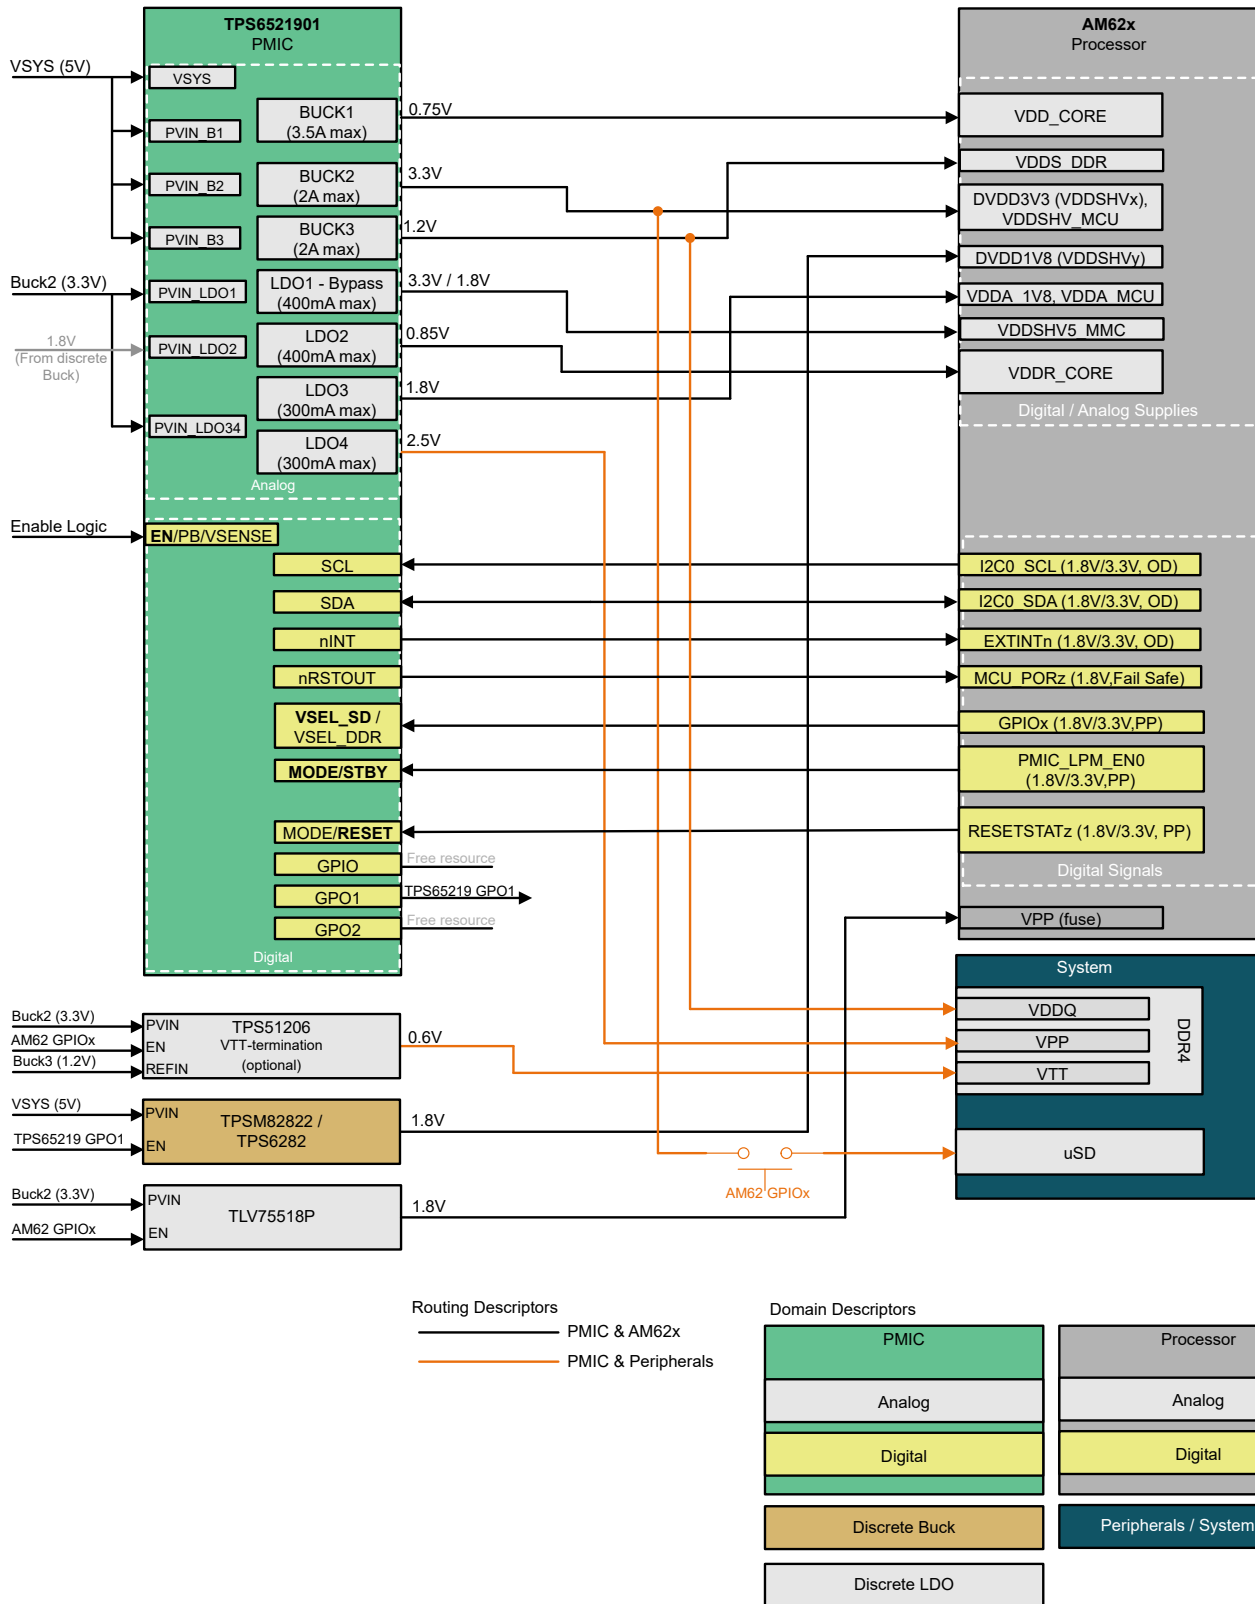

Figure 7-1. TPS6521901 Powering AM62
**Figure 7-1** shows the TPS6521901 variant powering the AM62x processor on a system with 5V input supply and DDR4 memory. The 5V coming from the pre-regulator is connected to the main input supply for reference system (VSYS) and to the power input of the buck converters (PVIN\_Bx). Buck1, Buck2 and Buck3 are used to supply VDD\_CORE at 0.75V, 3.3V VDDSHVx IO and DDR IO respectively. Since Buck2 (3.3V PMIC rail) is programmed to ramp up first in the power-up sequence, this can be used as the input supply for some of the LDOs to minimize power dissipation. LDO1, configured as bypass, allows dynamic SD card voltage changes between 3.3V and 1.8V. This voltage change on LDO1 can be triggered setting the VSEL\_SD pin high (LDO1=3.3V) or low (LDO1=1.8V). LDO2, is used to supply the VDDR\_CORE. LDO3 supports the 1.8V analog domain and LDO4 supports the 2.5V VPP for the DDR4 memory. This power implementation requires an external discrete buck regulator to supply the 1.8V VDDSHV IO domain. This external discrete can be enabled using the GPO1 of the PMIC. TPS6521901 comes preprogrammed to enable GPO1 in the second slot of the power-up sequence. The external discrete must have active discharge and ramp up to an stable output voltage before the PMIC starts powering up the rails in the next slot. The remaining two general purpose pins (GPIO and GPO2) are free digital resources that are disabled by default but can be enabled through I2C after the PMIC completes the power-up sequence (after nRSTOUT is released).